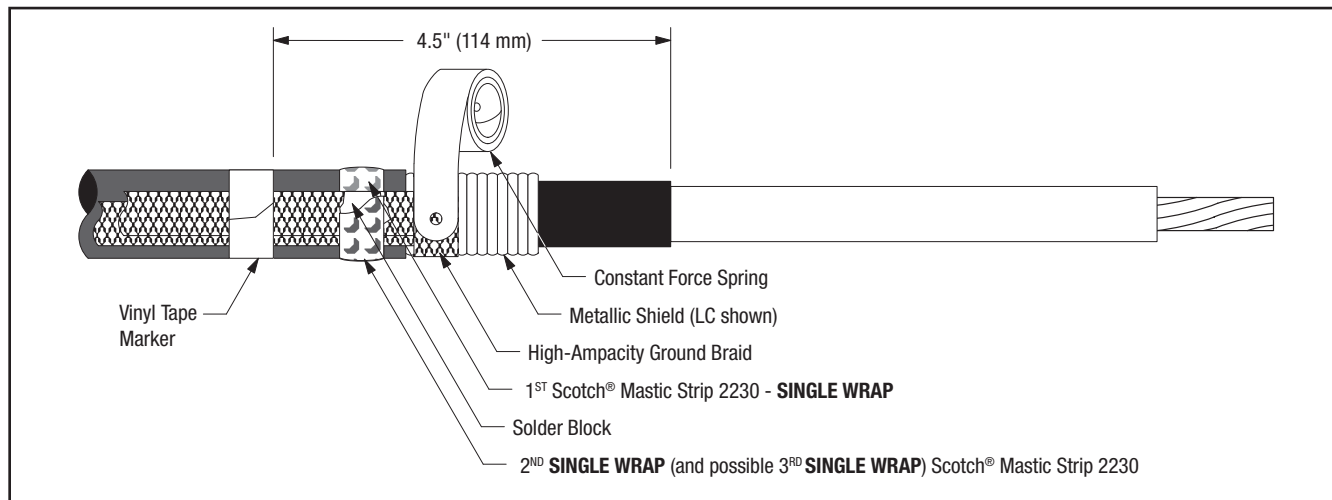

Figure 6
- 4.3 Wrap the high-amp ground braid around the metallic cable shield and secure in place with constant force spring. Cinch (tighten) the spring after wrapping the final turn. Position the high-amp ground braid tail (with solder block over mastic strip) over the cable jacket and parallel to the first ground braid tail (Figure 6).
- 4.4 Select Scotch® Mastic Strip 2230 from kit and remove white release liners. Apply a **SINGLE WRAP** of mastic over solder block on high-amp ground braid and previously applied mastic. If high-amp ground braids overlap on cable jacket be sure to apply mastic between the solder blocks of the high-amp ground braids. Secure ground braid to cable jacket **4.5" (114 mm) from cable semi-con edge using vinyl tape**. Apply tape directly over previously applied marker tape (Figure 6).